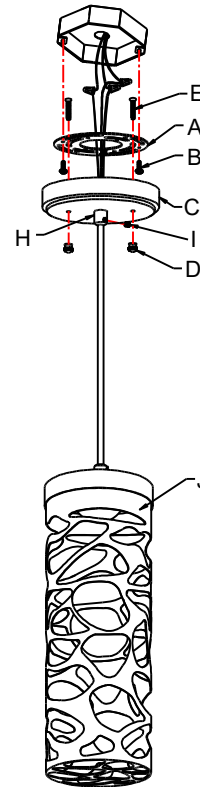

Fig. 2
CONNECTING THE WIRES (Fig. 2)
8. Connect the electrical wires as shown in Fig. 2, making sure that all wire connectors are secured. If your outlet has a ground wire (green or bare copper), connect the fixture's ground wire to it. Otherwise, connect the fixture's ground wire directly to the circular strap (A) using the green screw provided.